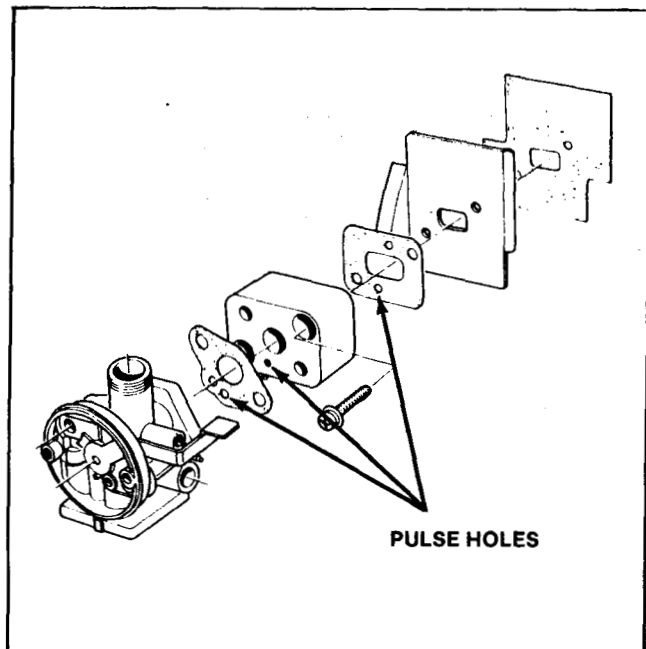

Figure 32
1. Install the intake flange with gaskets and heat shield making certain that the pulse hole is not obstructed by any of the intake components. Secure by tightening the screws to .3 to .45 kg m (26 to 38 in lbs). See Fig. 32.